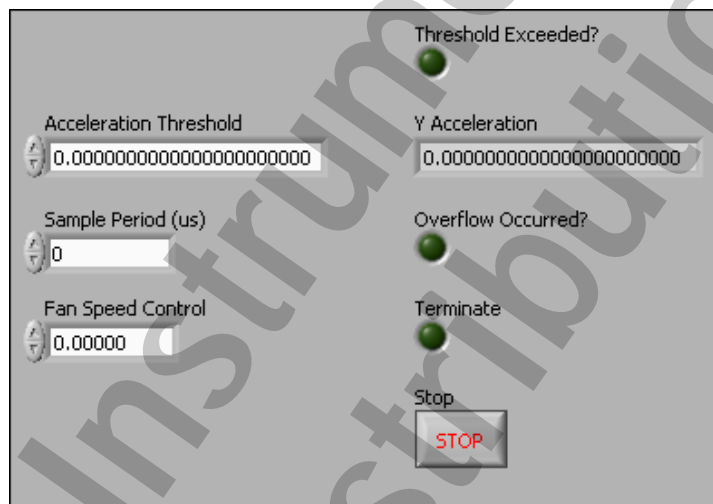

Figure 6-8. Accelerometer.vi – Front Panel
11. Arrange the front panel as shown in Figure 6-8.